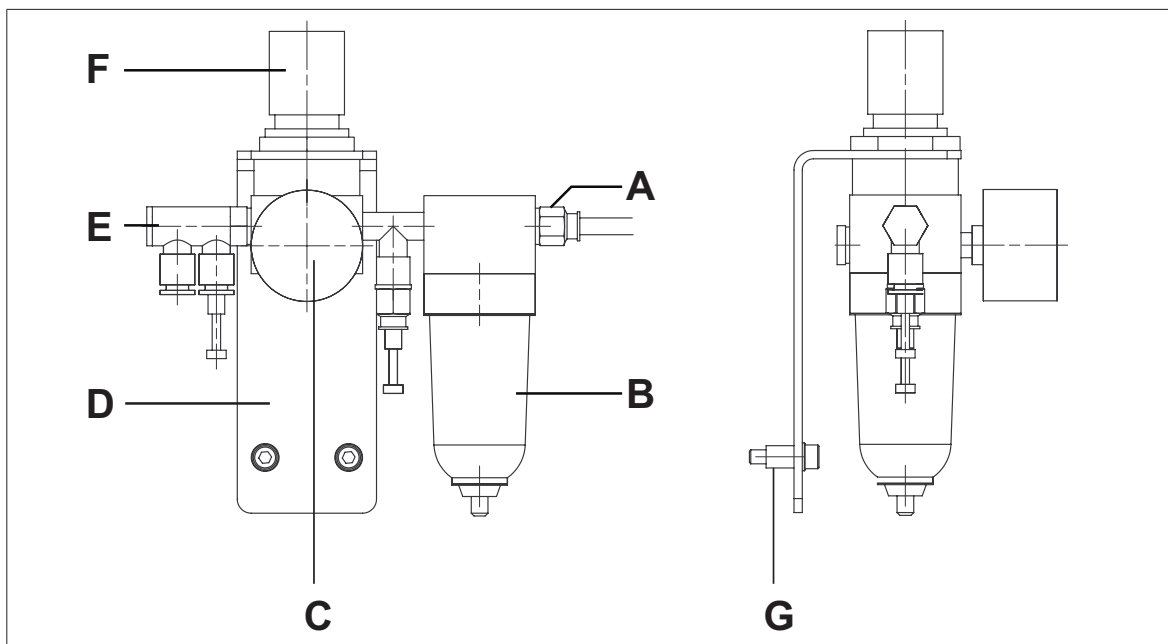

Figure 10.1.1/1: Spray-air adapter kit in overview
4. Connect the compressed air connections of the heated hoses to the plug nipples (“E” in Figure 10.1.1/1). If only one heated hose will be connected, then the remaining plug nipple must be sealed with a blind plug.
5. Connect the quick-release fastener of the compressed air line to nipple “A” (see Figure 10.1.1/1).
The adjusting wheel “F” is used to set the working pressure (see Figure 10.1.1/1). The adjustment range is 0 to 3.5 bar.